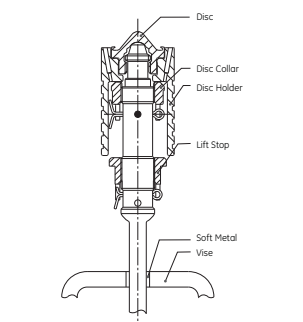

Figure 13: Spindle Vise
- 11. To remove the disc and disc holder from the spindle, first insert the spindle into a vise (See Figure 13) being careful not to damage the threaded end of the spindle. Then, lift up on the disc holder and turn the disc/disc holder counterclockwise to engage the "drop-thru" threads. Once the threads are engaged, release the disc holder and continue to unthread and remove the disc. After the disc is removed, lift the disc holder from the spindle.